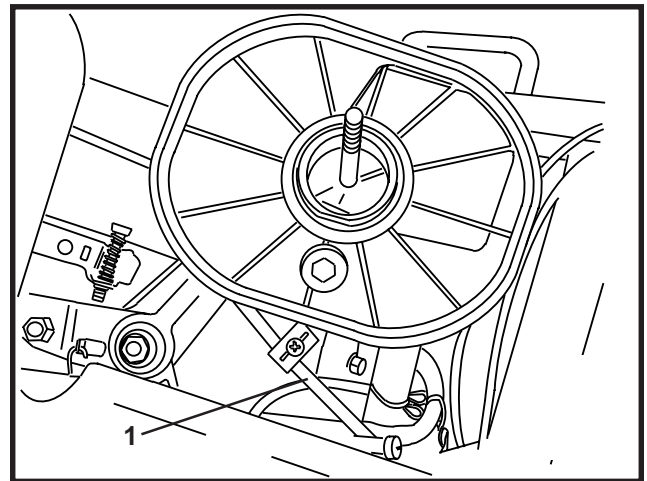

FIGURE 8
15. Attach the throttle cable to the engine using the double wire clamp removed in step nine. Figure 8.